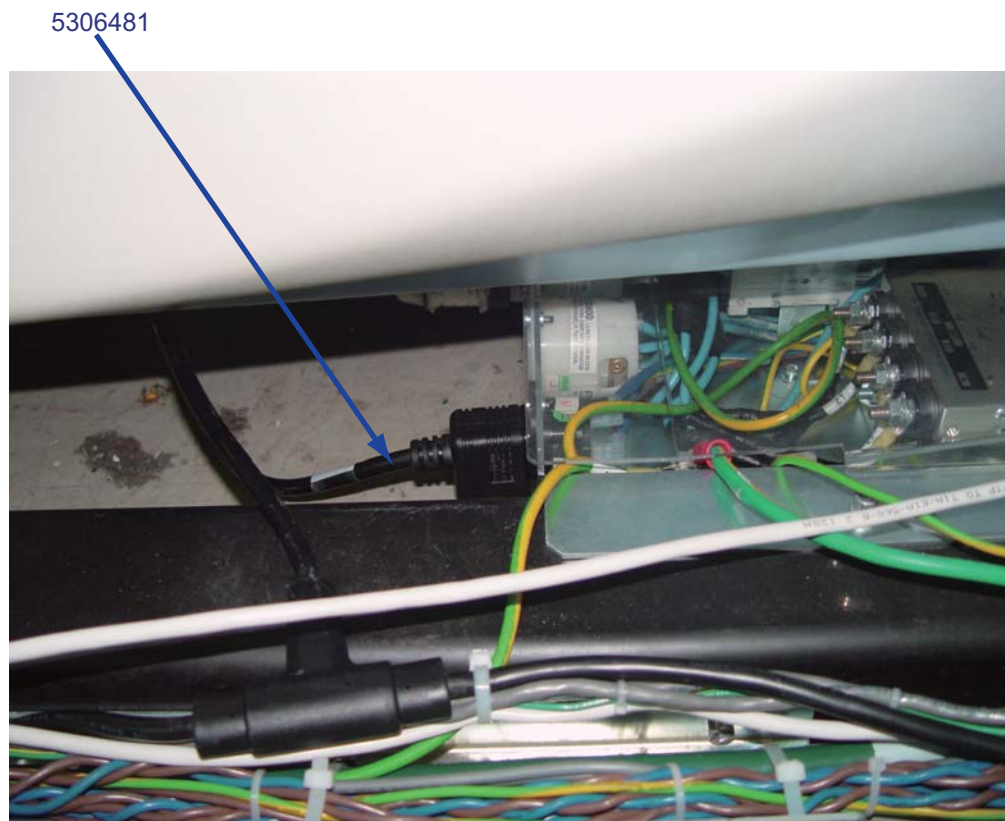

Figure 1-15 Cable to Power Pan
- 9.) Connect cable 5306481 to Power Pan, Gantry should be tilt 25° forward to access the connector, as shown in Figure 1-15.